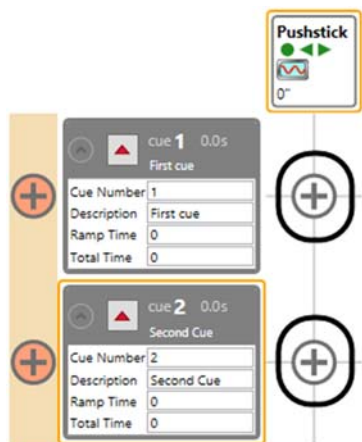

Figure 210
1. Press the “+” button that is displayed at the intersection of the cue row and the motor column (Figure 210).